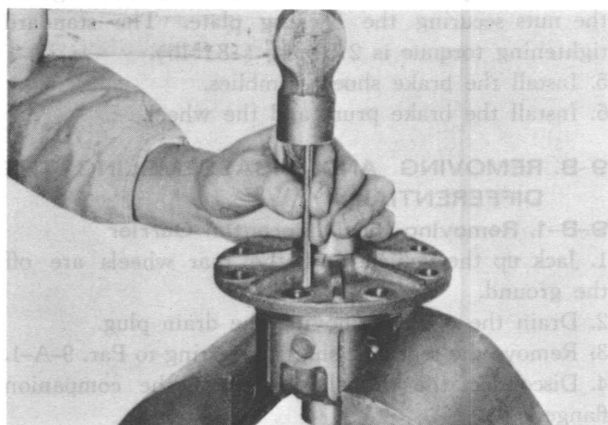

Fig. 9-9 Removing lock pin
3. Drive the pinion shaft lock pin out of the gear case from the back side of the ring gear flange with a suitable drift, as shown in Fig. 9-9.